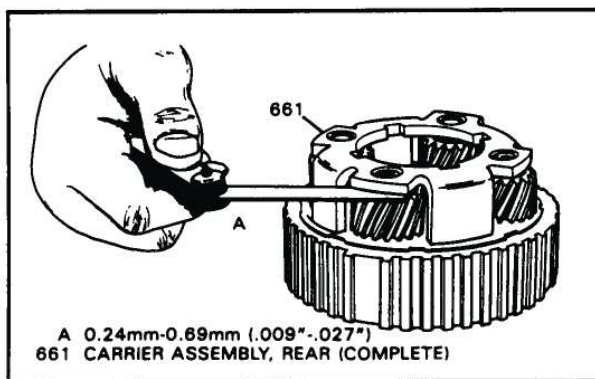

Figure 68
13. Check pinion end play on planetary carrier with feeler gage, as shown in Figure 68. End play should be .009" to .027".
14. Install thrust bearing (663) into the ring gear, with inside diameter of race against ring gear.